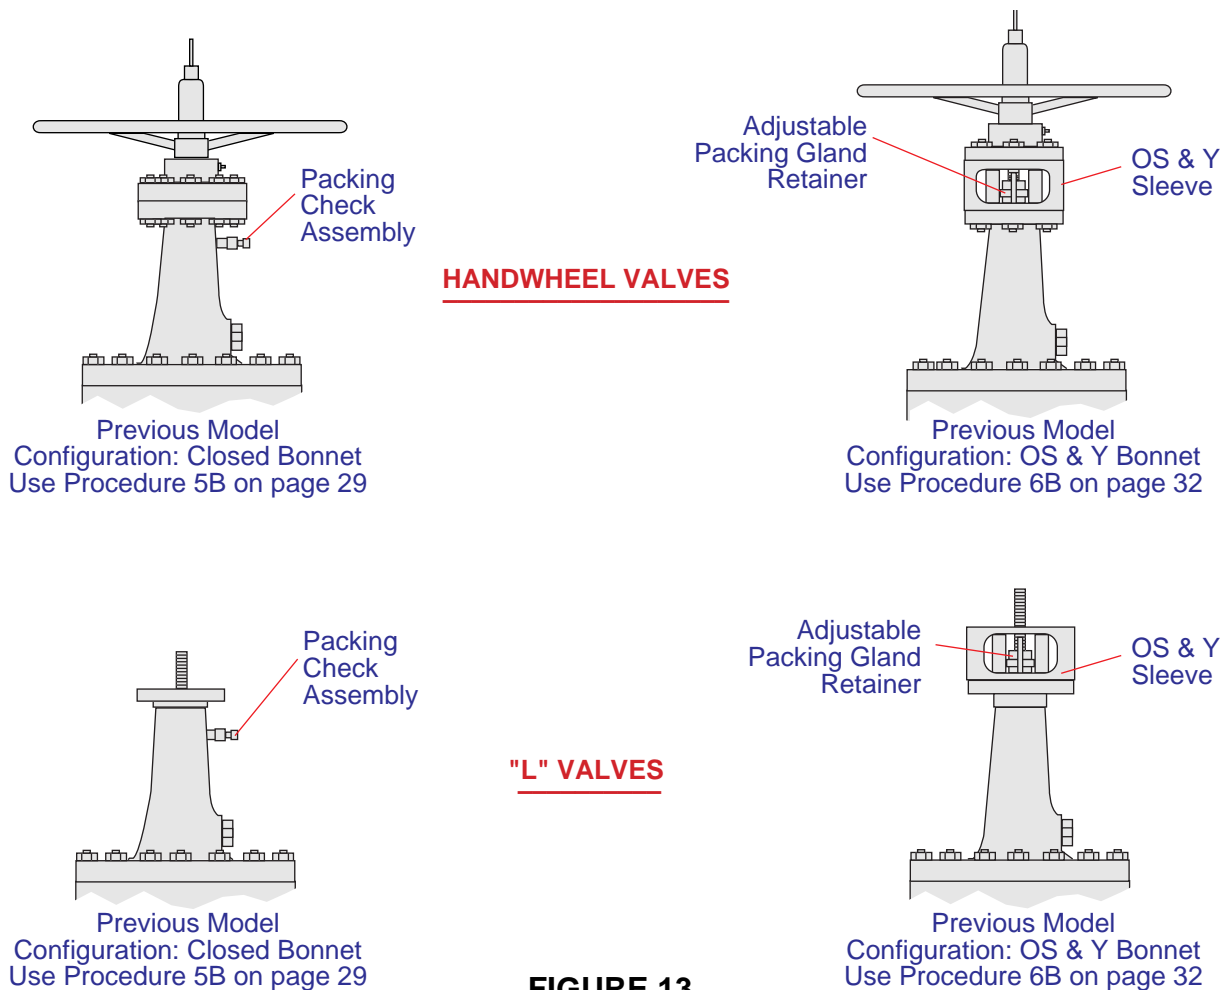

FIGURE 13
3. No prefix (PREVIOUS model) see Figure 13 below for visual inspection to determine the bonnet configuration. The installation procedure page number is given under each illustration.